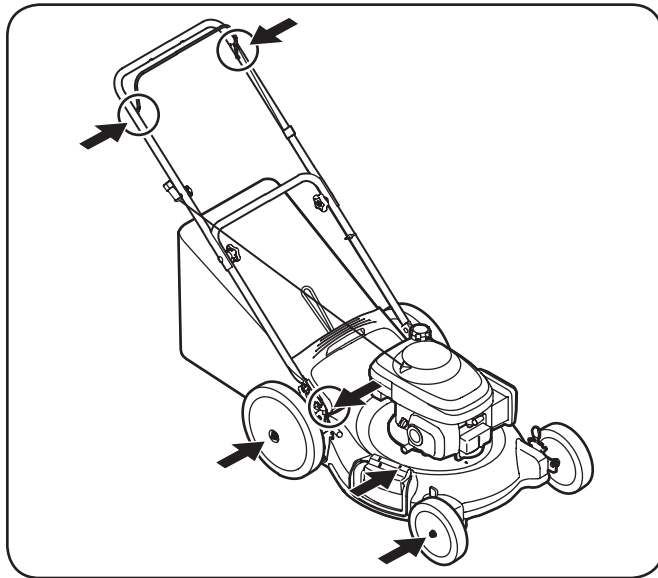

Figure 6-1
1. Lubricate pivot points on the blade control at least once a season with light oil. The blade control must operate freely in both directions. See Fig. 6-1.
2. Lubricate the wheels at least once a season with light oil (or motor oil). If wheels are removed for any reason, lubricate surface of the pivot arm and inner surface of the wheel with light oil. See Fig. 6-1.
3. Lubricate the torsion spring and pivot points on the rear discharge door and side mulch plug periodically with light oil to prevent rust. See Fig. 6-1.